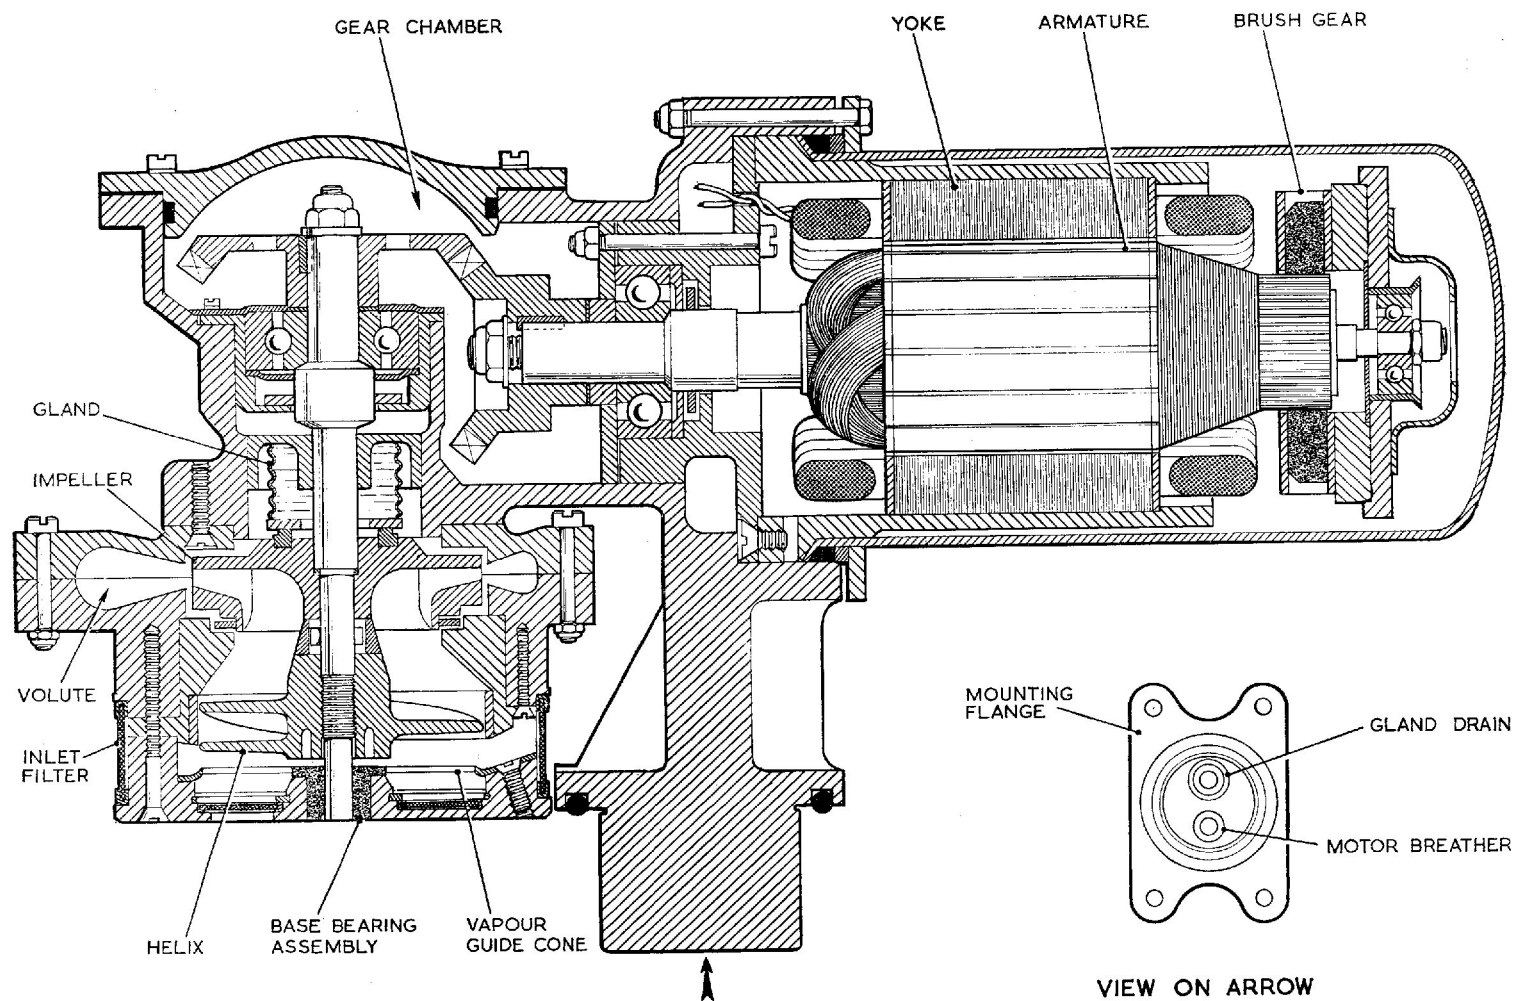

Fig. 2. Sectional view of SPE.352, Mk.4A fuel pump
3. A typical SPE.352 pump is illustrated in Fig. 2. Basically the unit consists of a pump unit spindle mounted vertically in the main pump casting and driven through right angle reduction gearing, by a horizontally mounted pump motor. A metallic bellows unit fitted into the pump casting and a carbon seal seat in the upper face of the centrifugal impeller, together form a gland preventing ingress of fuel into the gear chamber and the motor unit. Any leakage of fuel past this gland is led away to the circular mounting boss of the pump where connection is made to a drain pipe to atmosphere.